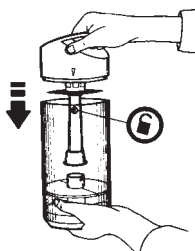

Figure 16a
1. Align the arrow on the Collection Bin Cover with the UNLOCK icon on the Collection Bin. (See Figure 16a.)
2. Insert the Inner Tube back into the Collection Bin. (see Figure 16a.)